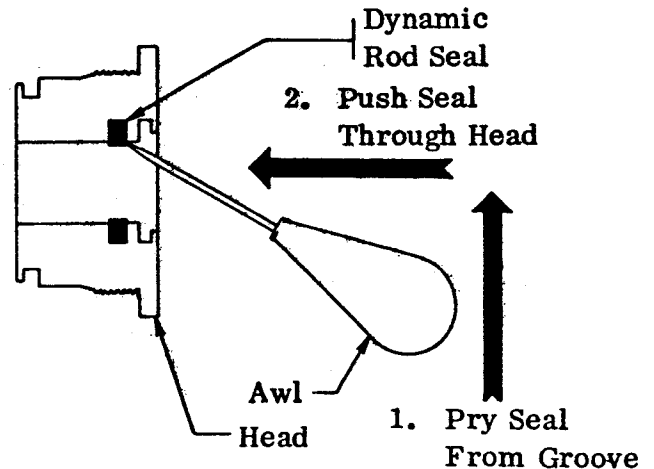

Figure E-4. Dynamic Rod Seal Removal
12. Position the head with the top of the head up and puncture the dynamic rod seal (No. 3) with the ice pick. Pry it out of the groove and push it on through the head (Figure E-4)